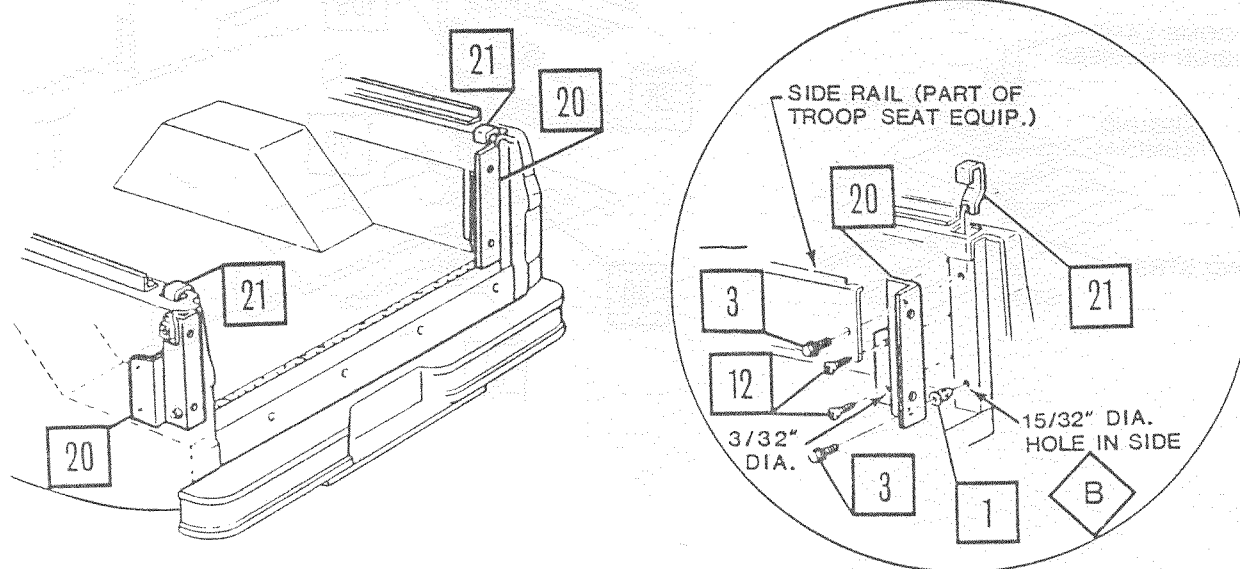

Figure 8.
34. Using "Z" side brackets as a template (locate off top hole), center punch and drill 15/32 inch lower holes (Figure 8.).
35. Apply sealer and install jacknuts in lower holes, and secure brackets into position with bolts (Figure 8.). Tighten bolts to 22-27 lb.-in. (2.5-3.0 Nm). Using side brackets as a template, drill  $3/32$  inch holes in insulators and install wood screws (Figure 8.).